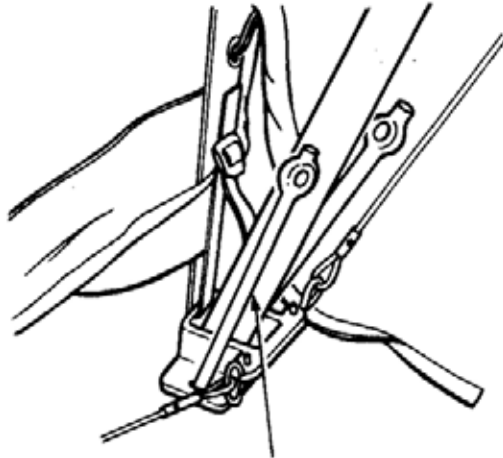

Figure 12 Drive in Pegs
1. Secure the frame to the ground. Hammer in the steel pegs (two per foot), working from the outside of the tent, so that the pegs are angled inwards (to prevent frame lifting as illustrated in Figure 12).